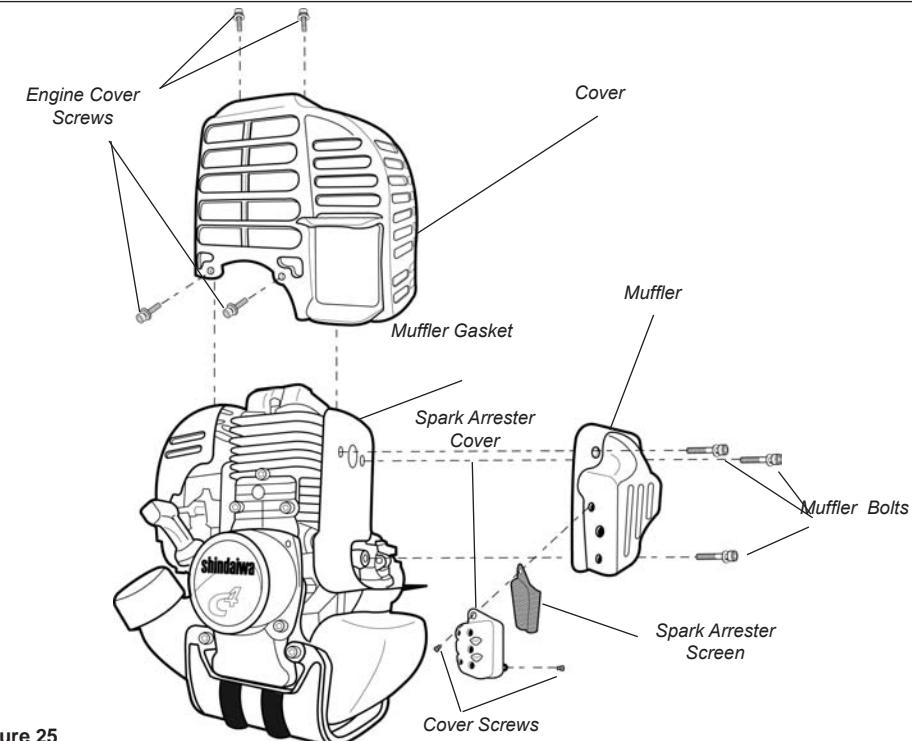

Figure 25
- With a 3 mm hex wrench remove the 4 engine cover screws and the engine cover. See Figure 25.
- With a small flat bladed screwdriver remove the 2 screws holding the spark arrester screen and cover to the muffler. See Figure 25.
- With a 4 mm hex wrench remove the 3 muffler bolts and the muffler. See Figure 25.